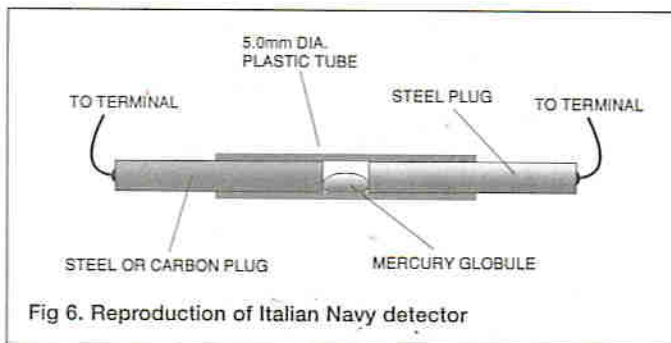

Fig 6. Reproduction of Italian Navy detector
A. Italian navy detector (Fig 6)